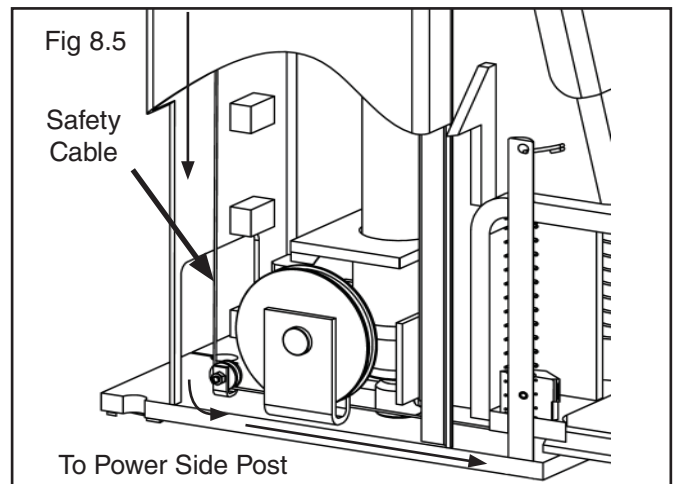

Fig 8.5
4. Route the cable through the baseplate's safety sheave(s) and across the floor towards the Power Side post. (See Fig 8.5 - 8.6)